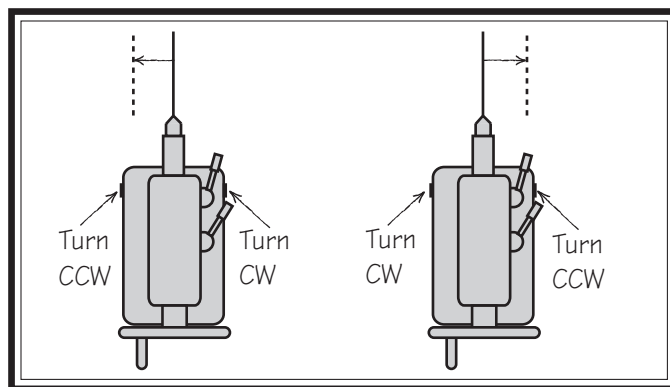

Figure 50. Set screw adjustment in relation to tailstock movement.
The tailstock can be offset from the spindle centerline for turning tapers. Move the tailstock top casting toward the front of the lathe to machine a taper at the tailstock end. Conversely, position the tailstock top casting toward the back of the lathe to machine a taper at the spindle end (see the illustration in **Figure 50**).
2. Rotate the adjustment cap screws in opposite directions for the desired offset (see the illustration in **Figure 50**).